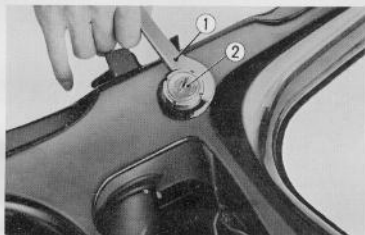

Fig. 4.48 Removing main ignition switch
3. Remove the main ignition switch ② from the left center of the frame using the main switch hook spanner. (Tool No. 07071~25001) (Fig. 4.48)